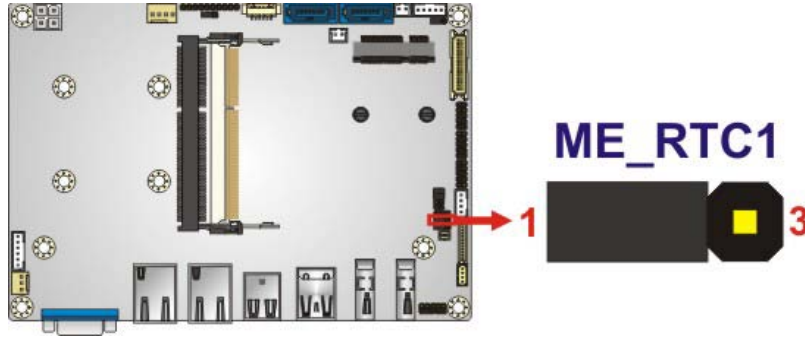

Figure 4-28: TPM Setting Jumper Location
- Jumper Location: See **Figure 4-28**